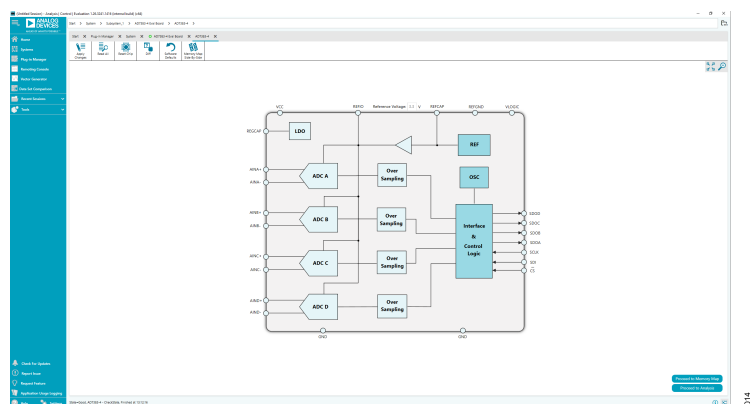

Figure 14. Chip View
4. Double click the **AD7380-4** chip icon to access the window shown in Figure 14.